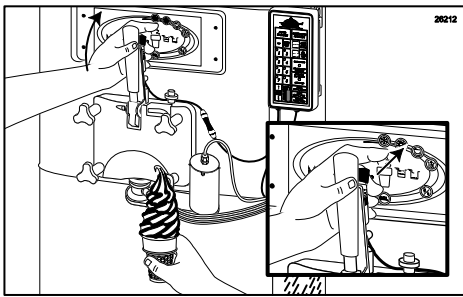

Figure 174
3. Release the Spigot Switch lever as you lift the draw-handle when the desired amount of product is drawn. (See Figure 174.)